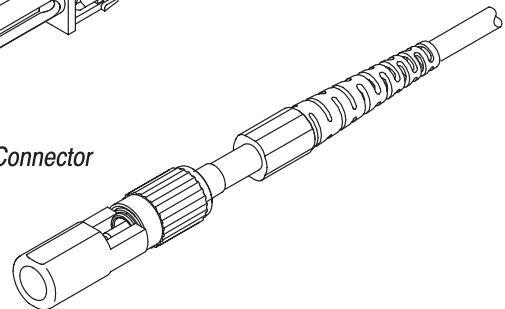

Figure 5
1. Remove the protective cover and attach the appropriate cure protector, as shown in Figure 5, for buffer or jumper connector subassemblies. Cure protectors are not required for use with anaerobic adhesive.